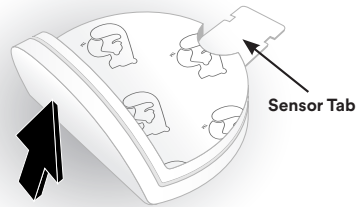

Figure 3-5: Remove the sensor
2. Starting at the edge of the sensor, gently remove the sensor from the patient (Figure 3-5).